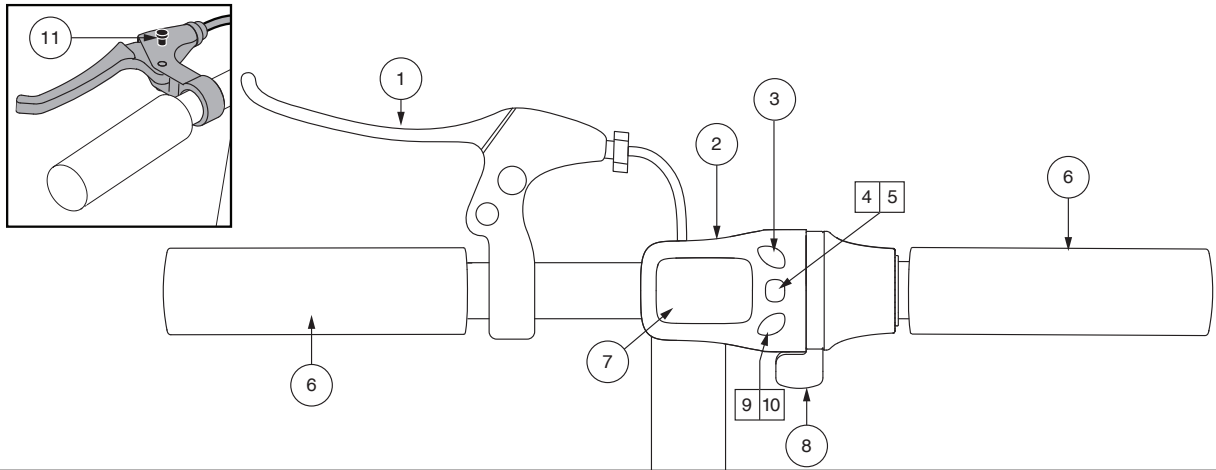

Figure 12. Tiller Console - B
Press and hold the mode select/power button for two (2) seconds to power up LCD display and start scooter. See figure 12.
- Press the Speed Down/Reverse button on your tiller console until reverse is selected. See figure 12.
- Come to a complete stop and press the Speed Up button on your tiller console to select one of the available preset speeds to move forward. See figure 12.
- Press and hold the Speed Down/Reverse button for two (2) to illuminate the LCD Display.